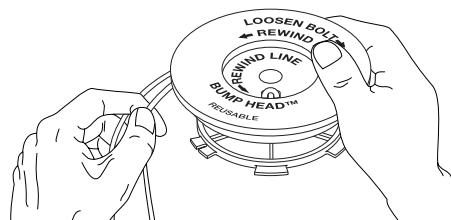

Figure 36
7. Wind the lines in tight even layers, onto the reel. See Figure 36. Wind the line in the direction indicated on the inner reel. Place your index finger between the two lines to stop the lines from overlapping. Do not overlap the ends of the line. Proceed to step 11.